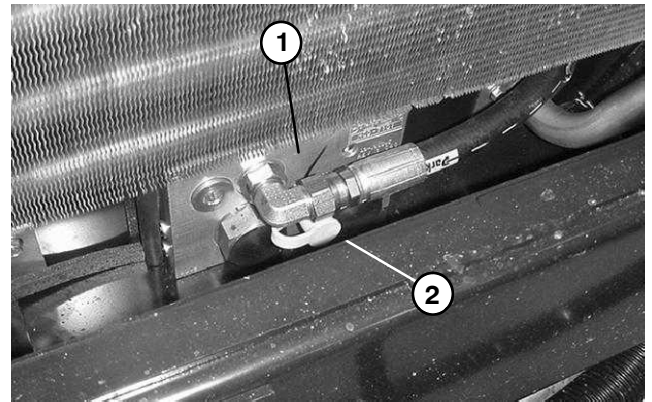

Figure 36
3. Connect a 1000 PSI gauge to test port on 2WD/4WD control manifold under radiator (Fig. 36).